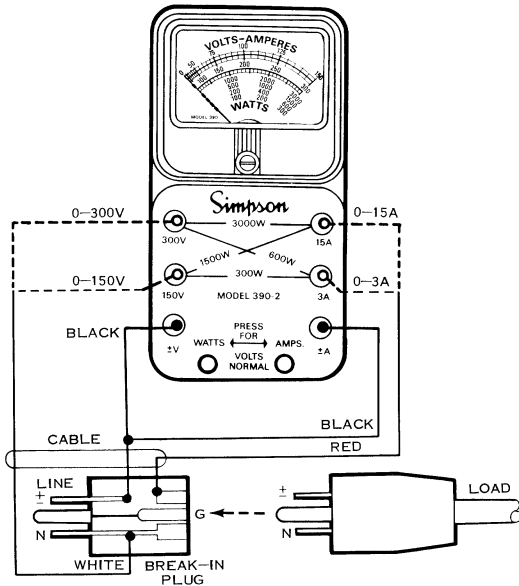
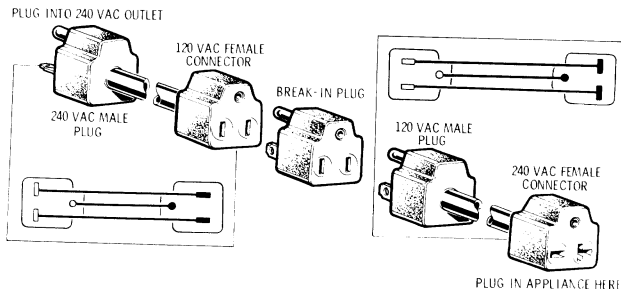
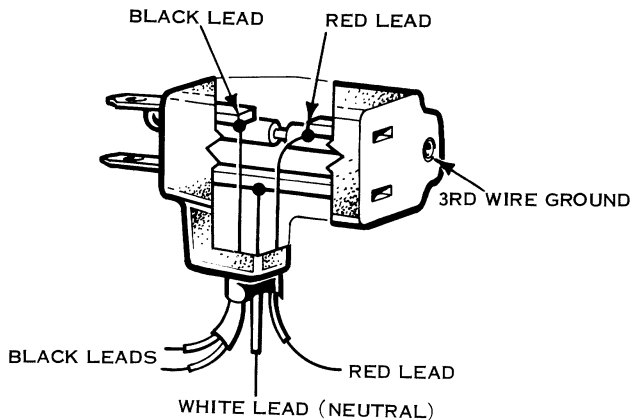

Figure 4-1. Break-In Plug Connections, 150V, 3A and 300V Ranges
Figure 4-3. Break-In Cable Assembly and Cable Adapter Set
Figure 5-4. Cross Section of Break-In Plug, Showing Cable Connections
**4.4.2** When testing line operated devices, always use the Break-in Cable Assembly supplied with the Instrument (refer to Figure 4-1). Make up a cable adapter set for use on 240 VAC line operated devices (refer to Figure 4-3).
- a. Connect the leads from the Break-in Plug Assembly according to color as shown in Figure 4-1. Connect the white lead to the jack marked 150V when testing 120 volt devices, or to the jack marked 300V when testing 240 volt devices.
- a. Connect the leads from the Break-In plug according to color as shown in Figure 4-1. To use the 3A range, connect the red lead to the terminal marked "3A". Use the 0-300 scale and drop two zeros (divide by 100).
- d. Plug the device to be checked into the Break-In Plug as shown in Figure 4-1.
- a. Connect the leads from the Break-In Plug according to their color as shown in Figure 4-1.
- c. Plug the device to be checked into the Break-In Plug as shown in Figure 4-1.
- An adapter is required to connect from 120V to 240V line (see paragraph 4.4). The Break-In Plug will not connect directly into a 240V line. Therefore, it is necessary to construct an adapter plug. Refer to Figure 4-3 for adapter make-up and test connections.
- Connect the white lead from the Break-In Plug (see Figure 4-1) to the 300V meter terminal. Connect the black leads to the  $\pm V$  and  $\pm A$  terminals.
The special Break-In Plug supplied permits connections across the line for voltage measurements and in series with the load for current measurements. These connections are clearly shown in Figure 4-1. Figure 5-4 shows the cable connections within the plug.